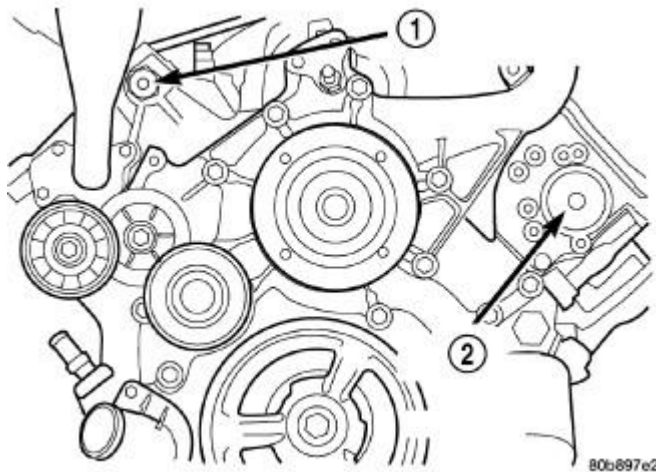

Fig. 24: Access Plugs From Left And Right Cylinder Heads
18. Remove the cylinder head access plug (1) (2). Refer to **Fig. 24**.